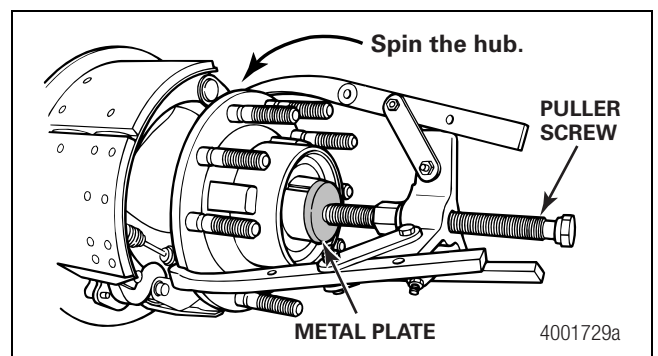

Figure 4.15
- Install a metal plate onto the end of the spindle. Figure 4.15.
- Attach a three-pronged puller to the hub. Figure 4.15.
- While holding the puller screw stationary, spin the hub to break it free from the axle. Figure 4.15.